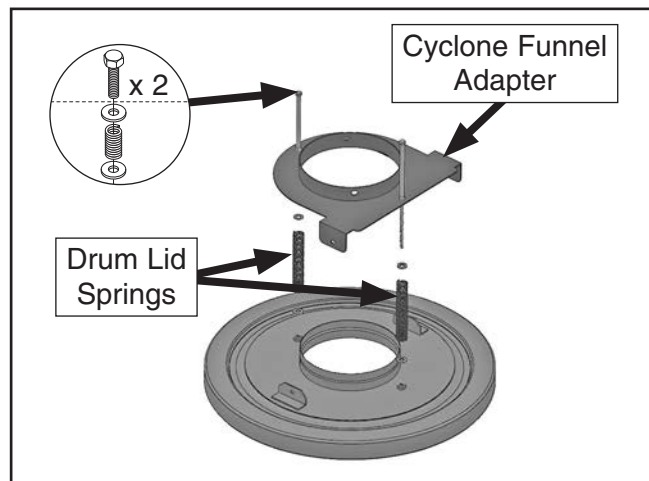

Figure 22. Installing cyclone funnel adapter.
30. Position cyclone funnel adapter and drum lid together with (2) $\frac{3}{8}$ "-16 x 11" hex bolts, (2) drum lid springs, and (4) $\frac{3}{8}$ " flat washers, as shown in **Figure 22**.